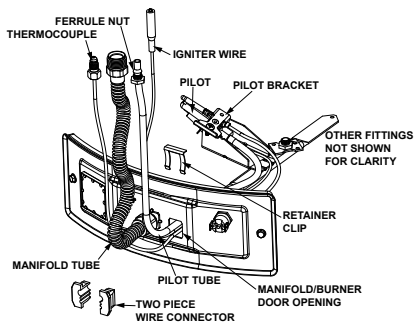

FIGURE 34.
2. Lift the retainer clip straight up from the back of the two piece wire connector (using a flat-blade screwdriver), then remove the two piece wire connector from the manifold door (Figure 34.)
- Position the new thermocouple through the bottom opening of the two piece wire connector (Figure 34). Be sure igniter wire is positioned through the small opening of the two piece wire connector.
- Lift the retainer clip straight up from the back of the two piece wire connector (using a flat-blade screwdriver), then remove the two piece wire connector from the manifold door (Figure 34.)
- Route the new pilot tube, thermocouple, and igniter wire through the manifold/burner door opening. (Figure 34)
- Carefully bend the new pilot tube and thermocouple to match the bend of the manifold tube. NOTE: When bending, DO NOT crimp or crease the pilot tube or thermocouple. (Figure 34)